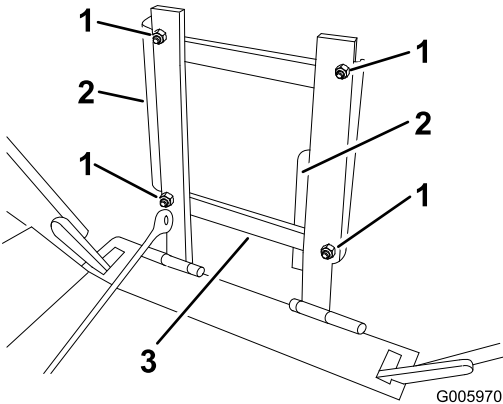

Figure 7
4. Remove the nuts holding the seat track to the seat mounting frame. Retain the seat tracks and fasteners for later use (Figure 7).